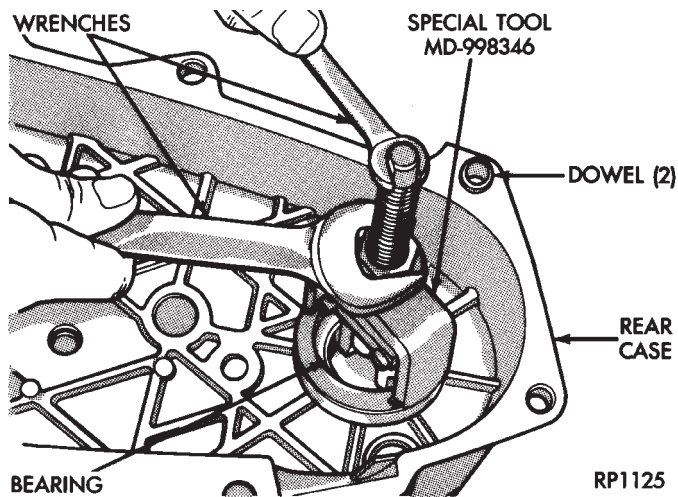

Fig. 55 Removing Front Output Shaft Rear Bearing
- (a) Remove bearing from rear case with Bearing Remover MD-998346 and two suitable size wrenches (Fig. 55).